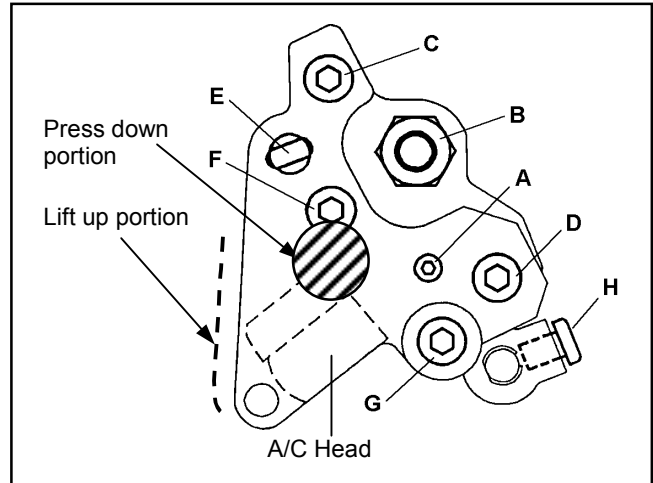

Figure 3-13-4
1. Press and Lift up A/C Head lightly (refer to figure 3-13-4), then confirm that the CTL and CUE output level is within the specification.
3. Confirmation of the level has to be done after the screw (H) is tighten completely. (refer to A/C Head Adjustment Method)
1. Press and Lift up A/C Head lightly (refer to figure 3-13-4) then confirm that the CTL and CUE output level is within the specification.
2. If it is out of spec., loosen the screw (H) and adjust the screw (B) until Cue output is maximized. (refer to item "3-15 A/C Head Height Adjustment".)